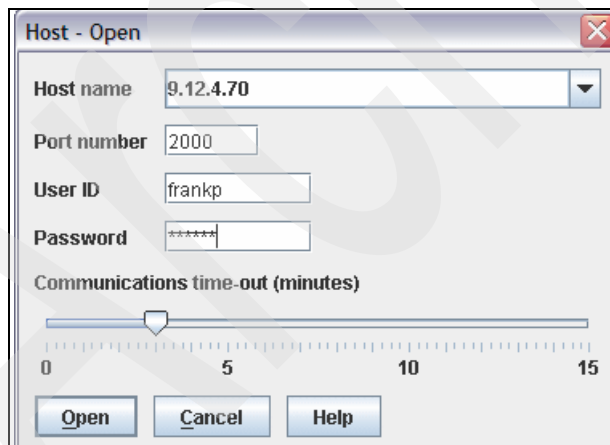

Figure 4-14 OSA/SF Workstation Interface - Logon
2. Log on to OSA/SF, as shown in Figure 4-14.